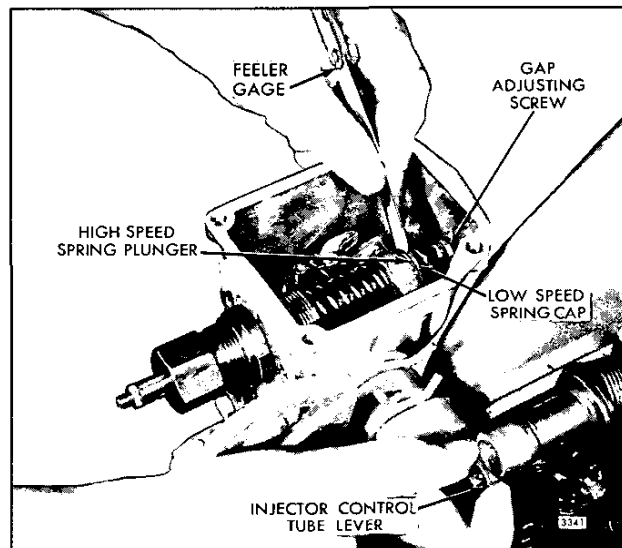

Fig. 1 - Adjusting Governor Gap
6. Check the gap between the low-speed spring cap and the high-speed spring plunger with a feeler gage (Fig. 1). The gap should be .002"- .004". If the gap setting is incorrect, reset the gap adjusting screw.